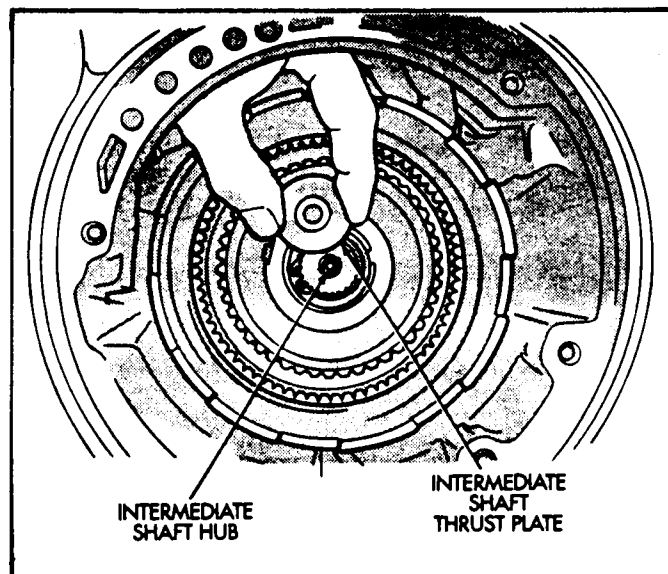

Figure 134
16. Ensure that the thrust plate is still in place on intermediate shaft, shown in Figure 134. Retain with Trans-Jel.